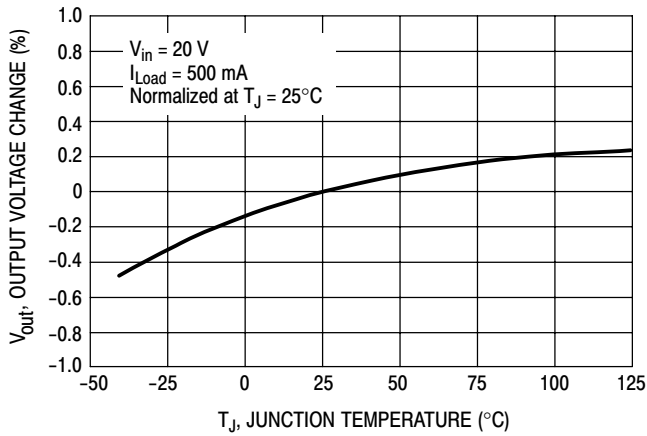

Figure 2. Normalized Output Voltage
1. Programming Output Voltage To select the right programming resistor R1 and R2 value (see Figure 2) use the following formula: $V_{out} = V_{ref} \left(1.0 + \frac{R2}{R1} \right) \text{ where } V_{ref} = 1.23 \text{ V}$ Resistor R1 can be between 1.0 k and 5.0 k Ω . (For best temperature coefficient and stability with time, use 1% metal film resistors). $R2 = R1 \left(\frac{V_{out}}{V_{ref}} - 1.0 \right)$	1. Programming Output Voltage (selecting R1 and R2) Select R1 and R2: $V_{out} = 1.23 \left(1.0 + \frac{R2}{R1} \right) \text{ Select } R1 = 1.8 \text{ k}\Omega$ $R2 = R1 \left(\frac{V_{out}}{V_{ref}} - 1.0 \right) = 1.8 \text{ k} \left(\frac{8.0 \text{ V}}{1.23 \text{ V}} - 1.0 \right)$ $R2 = 9.91 \text{ k}\Omega, \text{ choose a } 9.88 \text{ k metal film resistor.}$